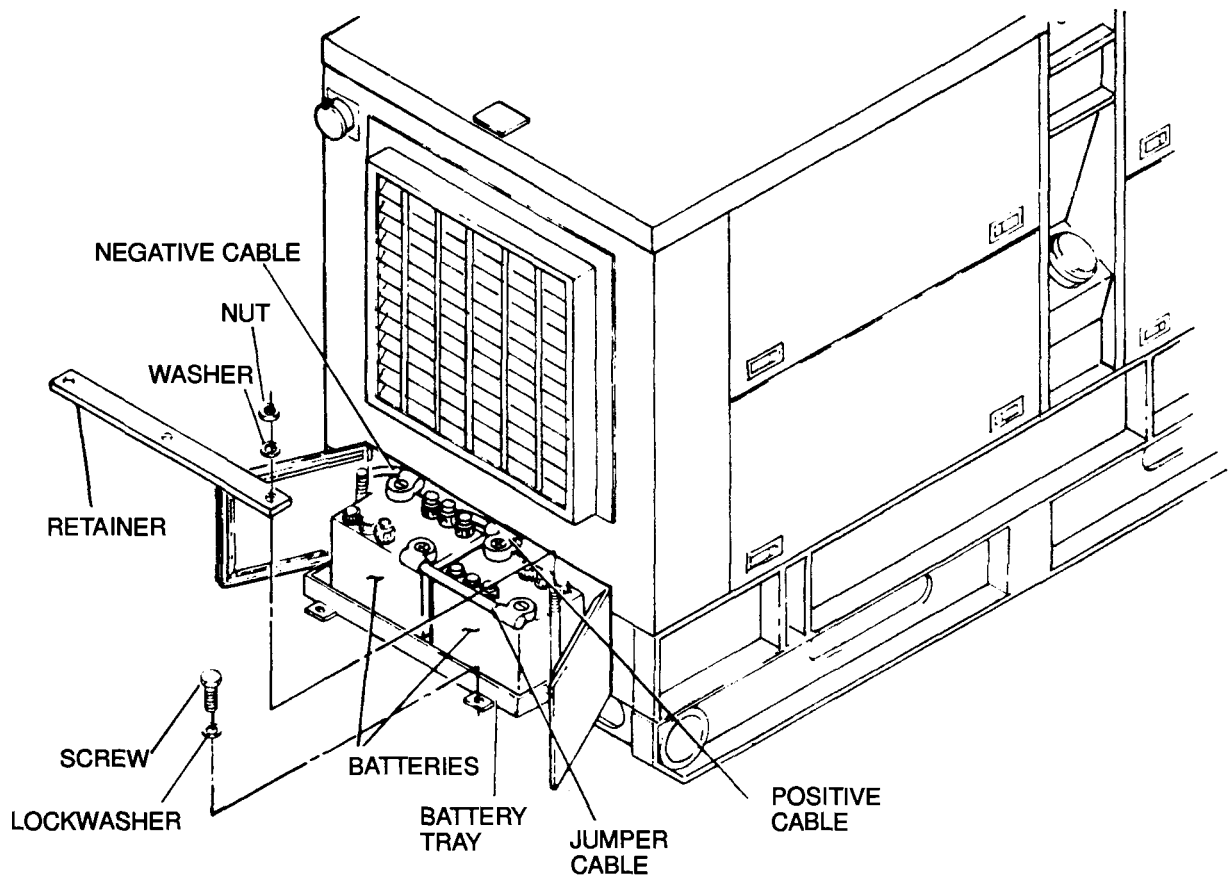

Figure 4-2. Battery Installation
- (1) Refer to paragraph 3-4 and service the batteries.
- (2) install batteries and connect as shown in Figure 4-2.
(1) Removal.
- (a) Remove battery tray retaining screws and washers (Figure 4-2) and slide battery tray out from compartment.
(b) Remove nuts, washers, and retainer (Figure 4-2).